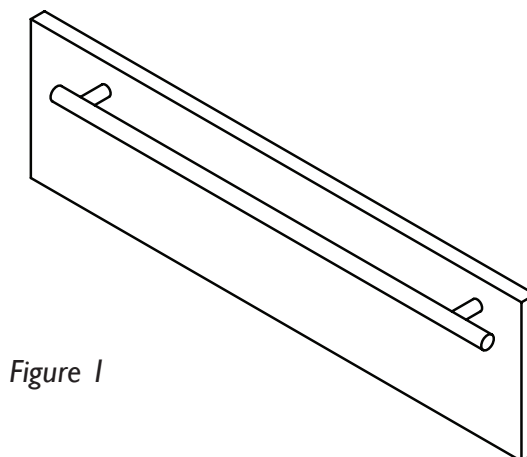

Figure 1
- As shown in **Figure 1**, a handle may be attached to the custom front panel if desired. Remember to countersink the handle screws, so the back surface is flush for attachment to the metal drawer front.